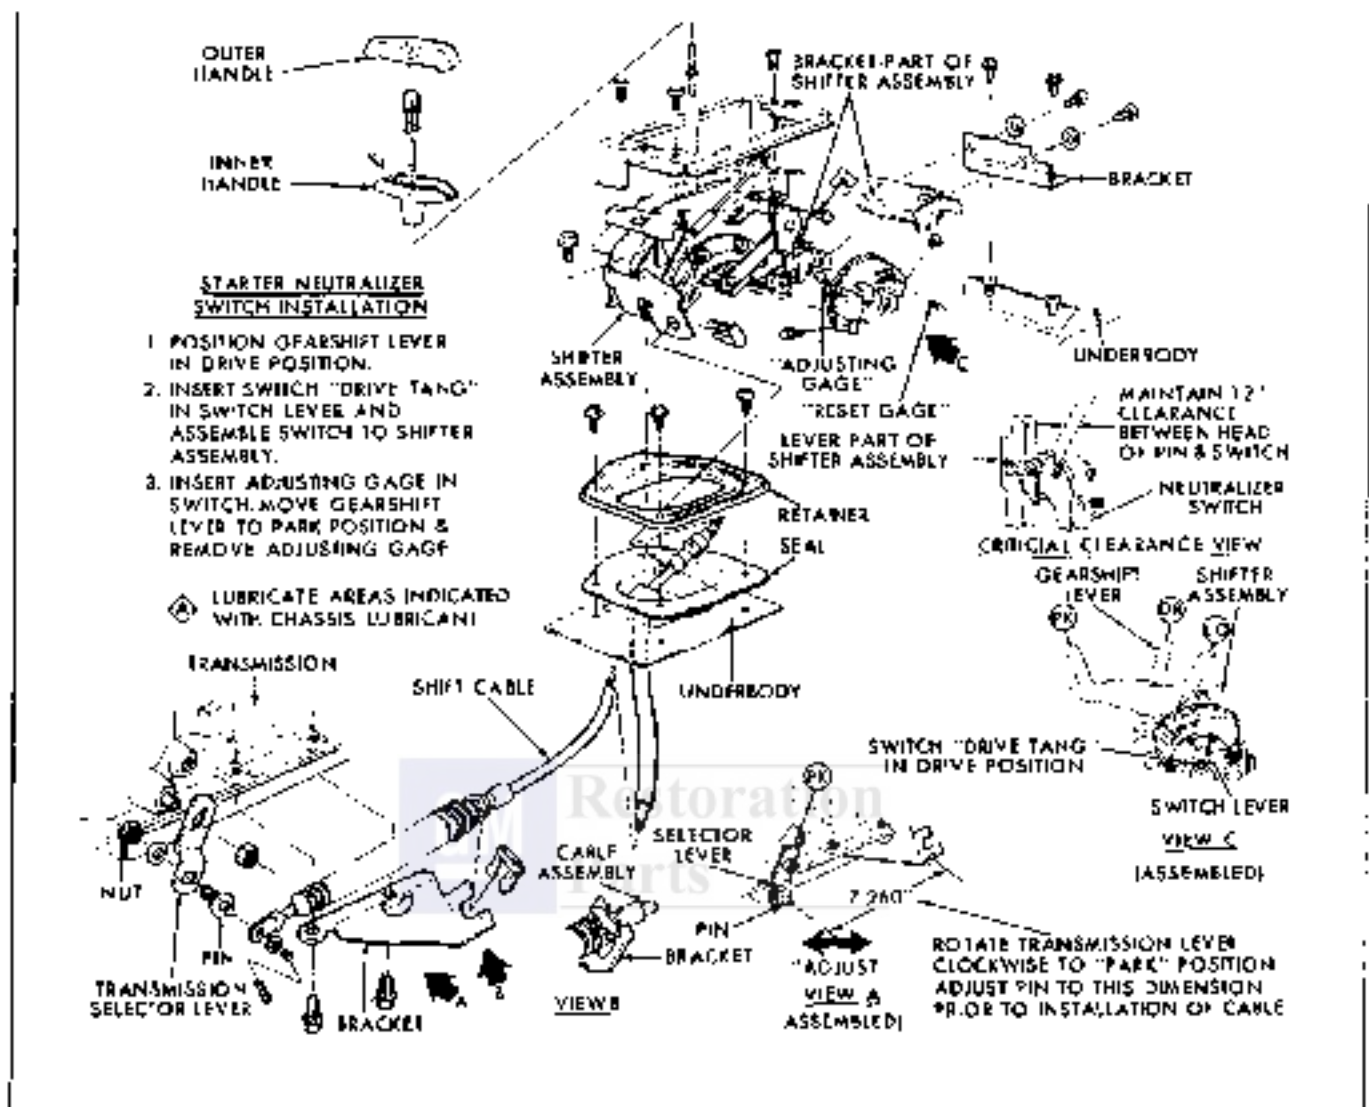

Fig. 7F-4 Firebird Floor Shift Linkage
2. Pull governor out of case bore, allowing governor to twist as driven gear disengages from drive gear teeth machined into output shaft (Fig. 7F-11).